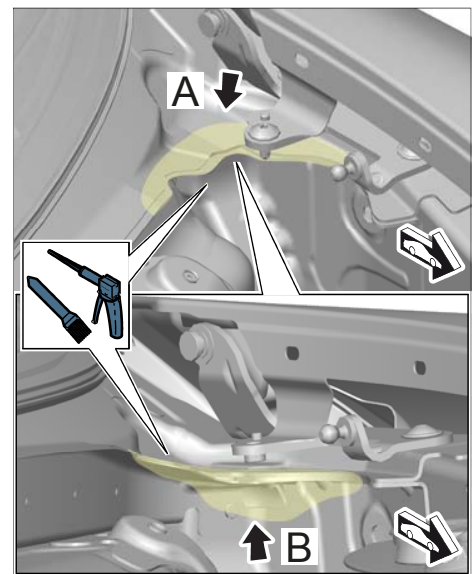

Figure 31
- 2.1 Apply body sealant to the area marked in yellow above the cowl panel frame ⇒ Figure 31 -arrow A- and spread it out evenly with a brush.
- 2.2 Apply body sealant to the area marked in yellow below the cowl panel frame ⇒ Figure 31 -arrow B- and spread it out evenly with a brush.